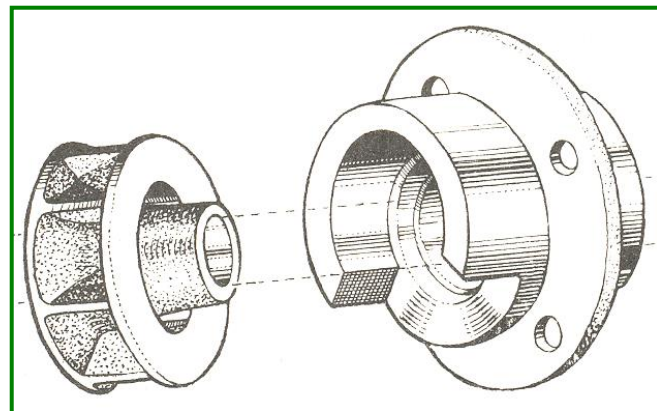

Figure 7. Left: Impellor shroud; Right: Later cover.
- l) **Water Pump** – On all Engines prior to PA 5857 the Water Pump should be modified to increase its capacity to 7 gallons/min. at 1,500 R.P.M. On Engines subsequent to the above number the modification was incorporated. The modification consists of an updated Cover and the addition of a Slip ring to the Impellor, as shown in Fig. 7.
Figure 7 is located at top of the next column.
Rear Shock Absorber Upper Pin – A modification to stiffen up the Rear Shock Absorber Upper Pin was introduced at Car No. 17672. Check that this has been carried out and if not modify the Mounting of the pin in accordance with *Fig. 7*.